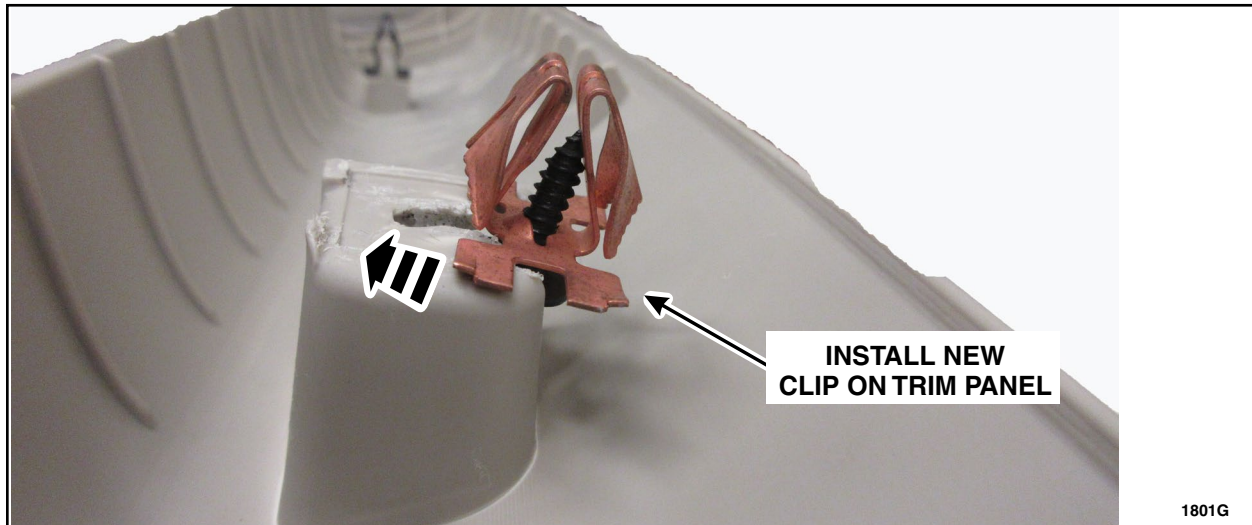

FIGURE 7
10. Install the new A-Pillar trim panel clip onto the trim panel. See Figure 7.